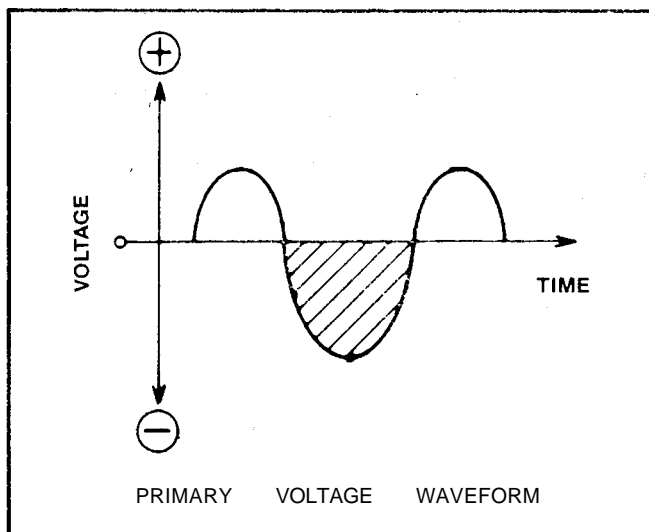
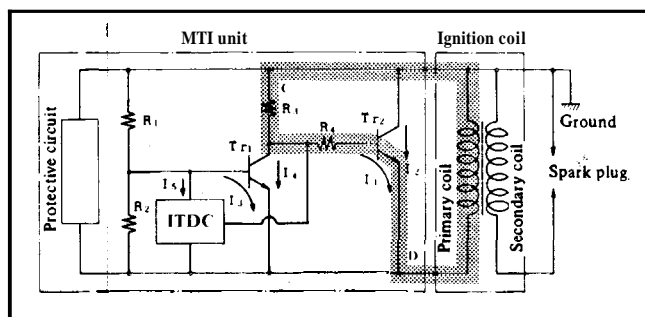
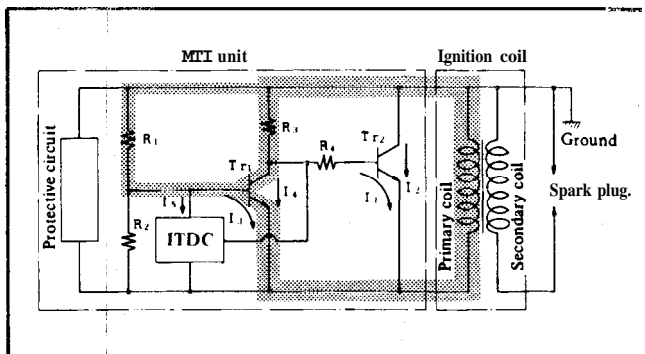

Figure 30
Figure 33
Figure 35
Before getting into the actual electronics used inside the trigger circuit, it is important to have an understanding of the voltage waveform produced by the flywheel magnets moving by the ignition coil. See Figure 30.
2. As the voltage begins to increase (approximately point "a" in Figure 30), transistor Tr_2 is turned on and current flows from point "c" to point "d" through R_3 , R_4 , and Tr_2 . See Figure 33.
4. When the voltage is at the point "a" level as denoted above in Figure 30, Tr_1 is still in the "off" mode and allows no current I_3 or I_4 to flow. See Figure 35.
5. As the voltage produced in the primary coil reaches its negative peak (point "b" in Figure 30), transistor Tr1 is turned on and allows small current **B** and large current **14** to flow.